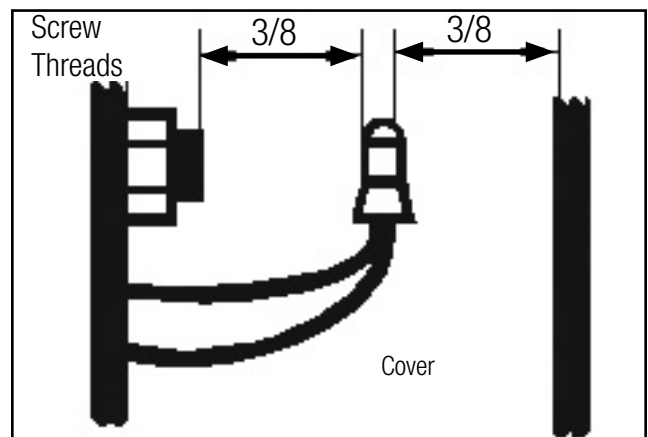

Figure 17-2
- Connections made at the slip ring require adequate clearance. After making all connections, wire leads should be bent to clear both the brush post screw thread and the inside of the slip ring cover. See **Figure 17-2**.